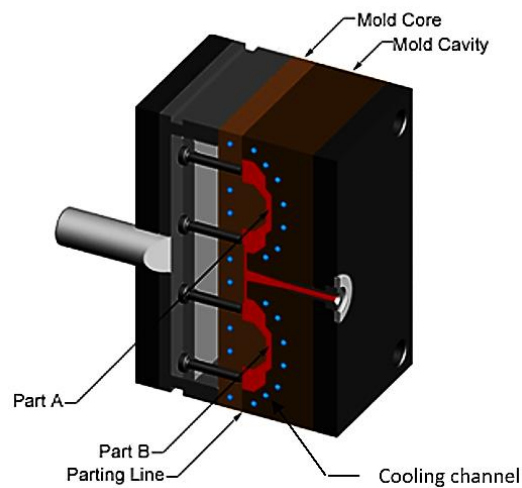

Figure 1: Mold overview
- (d). Figure 1 shows the overview of a mould in injection moulding. As can be seen around the top and bottom of parts A and B, it has cooling channels where circulation flows are required.